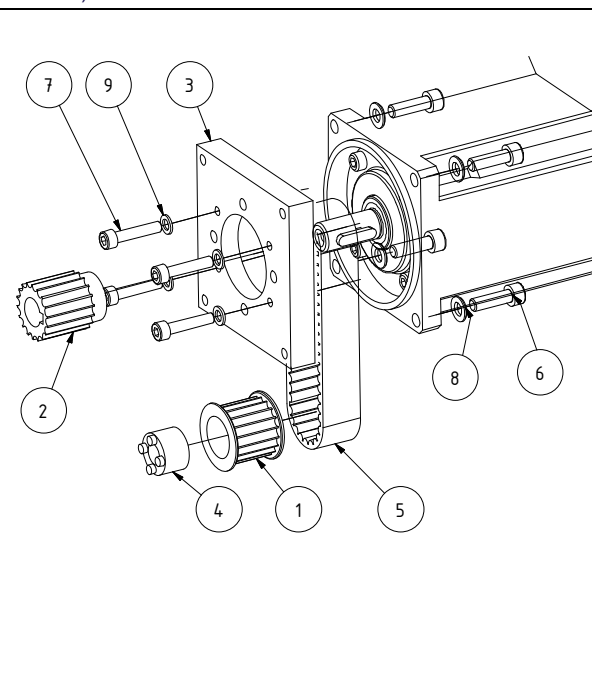

Figure 2: Parallel motor
- ◆ Slightly loosen 4 screws (Fig. 2 Pos. 7) by 1 or 2 turns (see figure on the right).
- ◆ Remove 4 screws (Fig. 2 Pos. 7) completely. First at the bottom, then at the top.